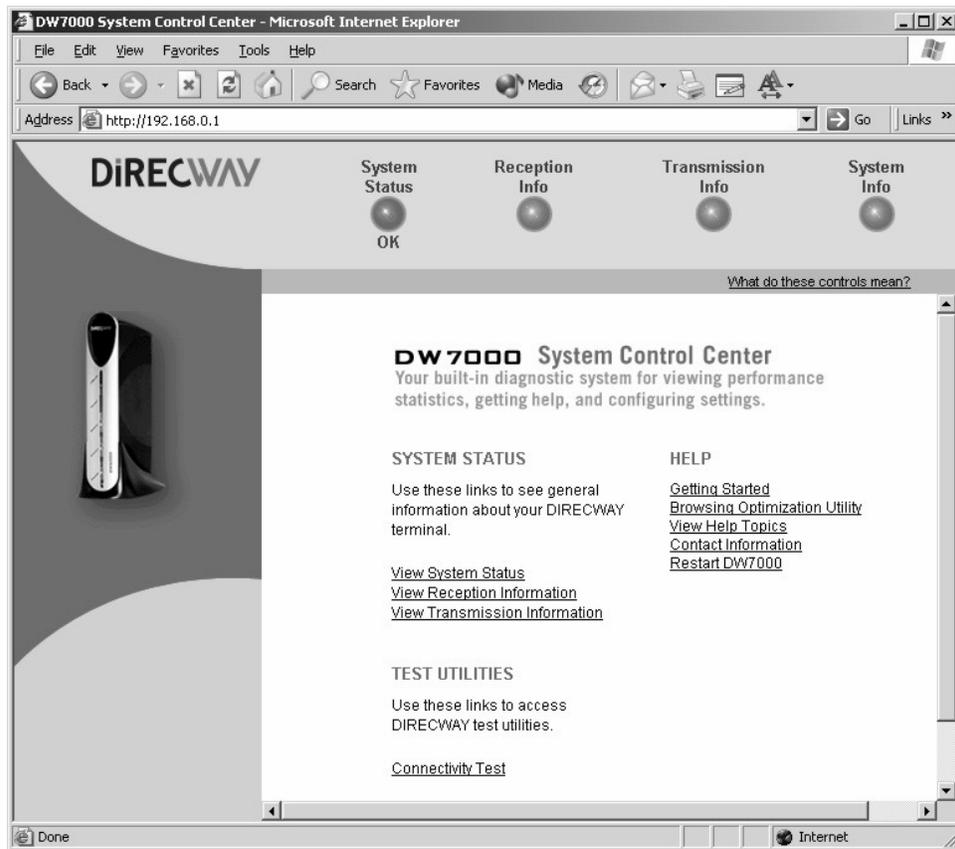

Figure 90: System Control Center home page
4. Press **ENTER**. The System Control Center home page appears. See Figure 90.